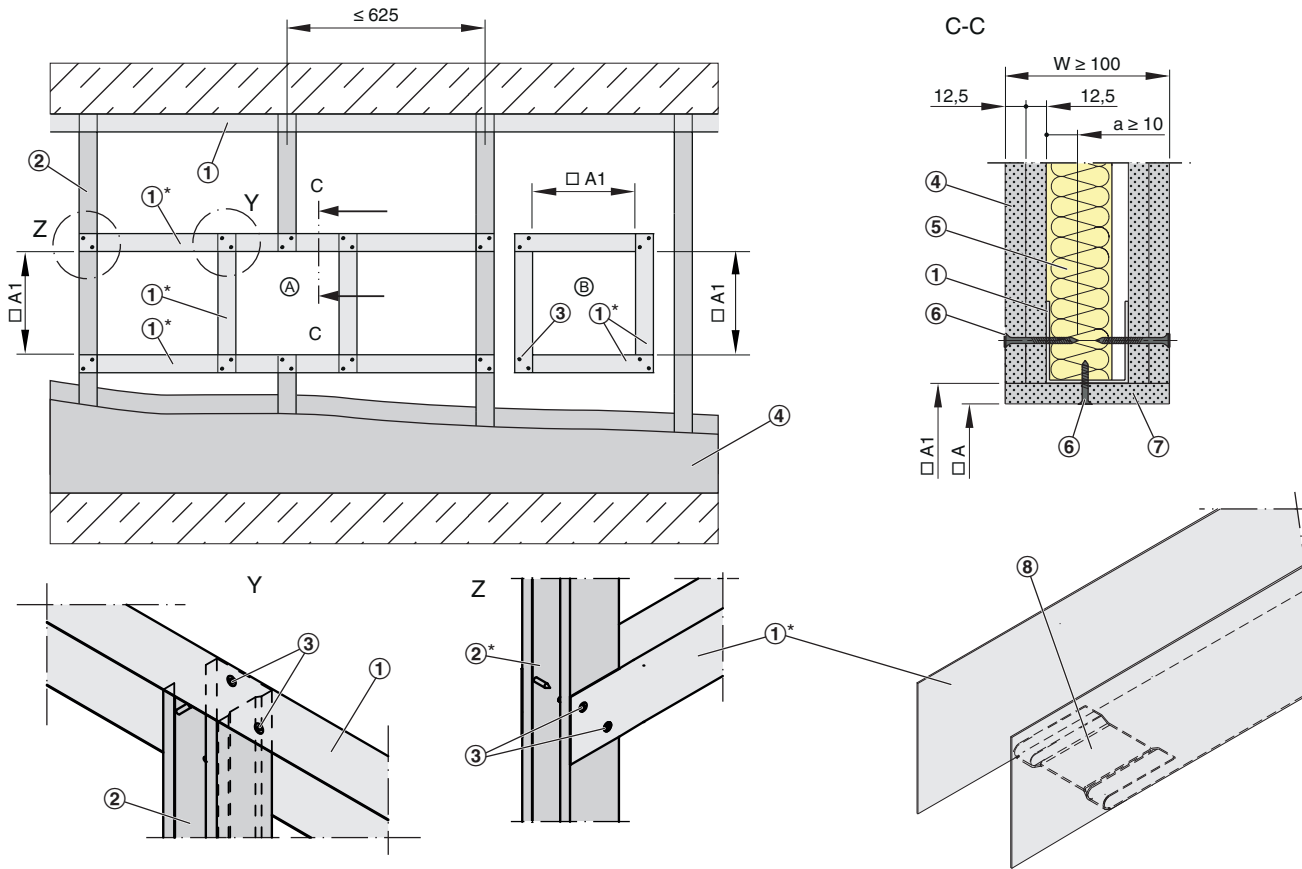

Fig. 8: Lightweight partition wall with metal support structure and cladding on both sides
- Erect the lightweight partition wall according to the manufacturer's instructions and create an installation opening, see Fig. 8